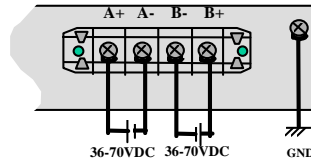

Figure C5.0: -48VDC Dual-Source, wiring connections to the External Terminal Block on a RFL 3000 48VDC with Dual-Source option
The -48VDC terminal block on the RFL 3000 4K-Series Switch is located on the right rear of the unit and is equipped with five (5) screw-down lead posts (see Fig C5.0). The primary terminals are identified as positive (A+), negative (A-), and the secondary power terminals as negative (B-), positive(B+). The chassis “earth” or ground (GND), is a threaded post with a #6 nut.